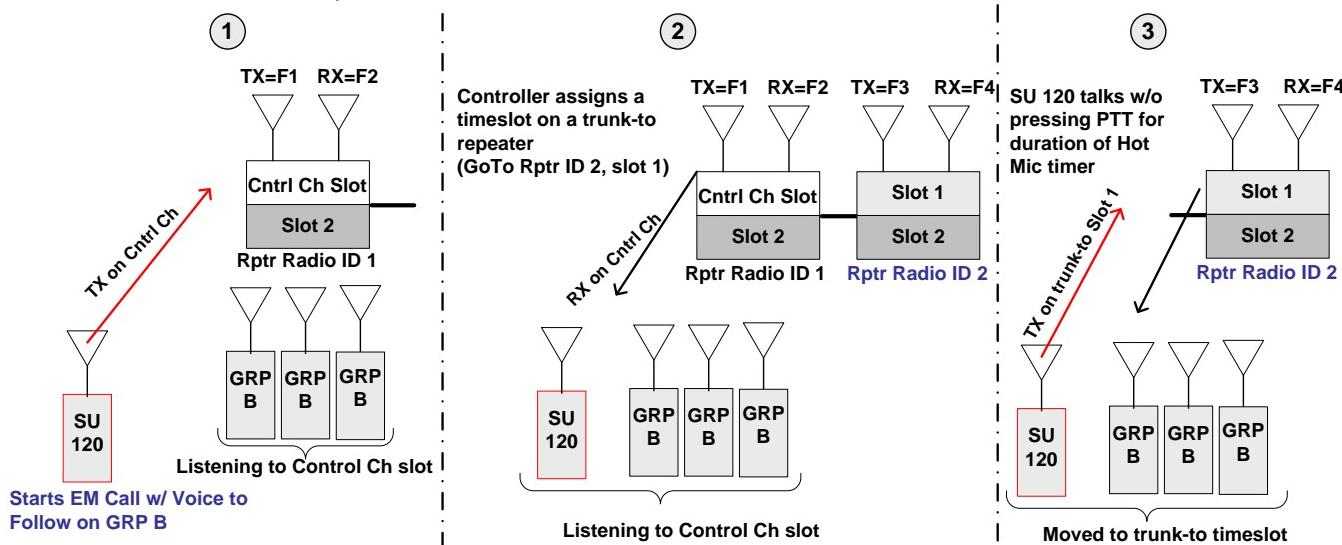

Figure 2-3 Example of Emergency Call with Voice to Follow
- A programmable option to send voice only upon PTT (Emergency Call), or to start the call with an automatic "Hot Mic" key-up by the initiating radio (Emergency Call with Voice to Follow). When selecting the latter option, the Hot Mic duration is controlled by a programmable timer. An example of an Emergency Call sequence is depicted in Figure 2-3.